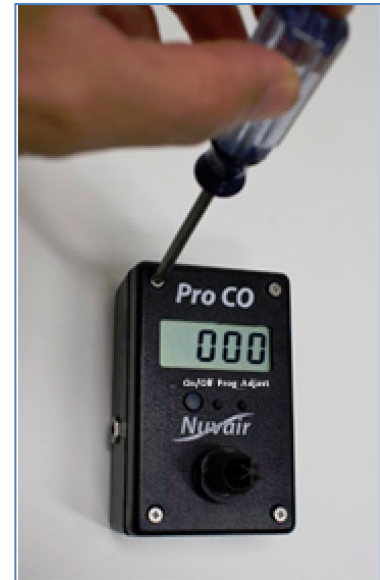

Figure 2. Removing faceplate screws and separate faceplate from back cover.
4. Remove four (4) faceplate screws using a small Phillips screwdriver (Figure 2).